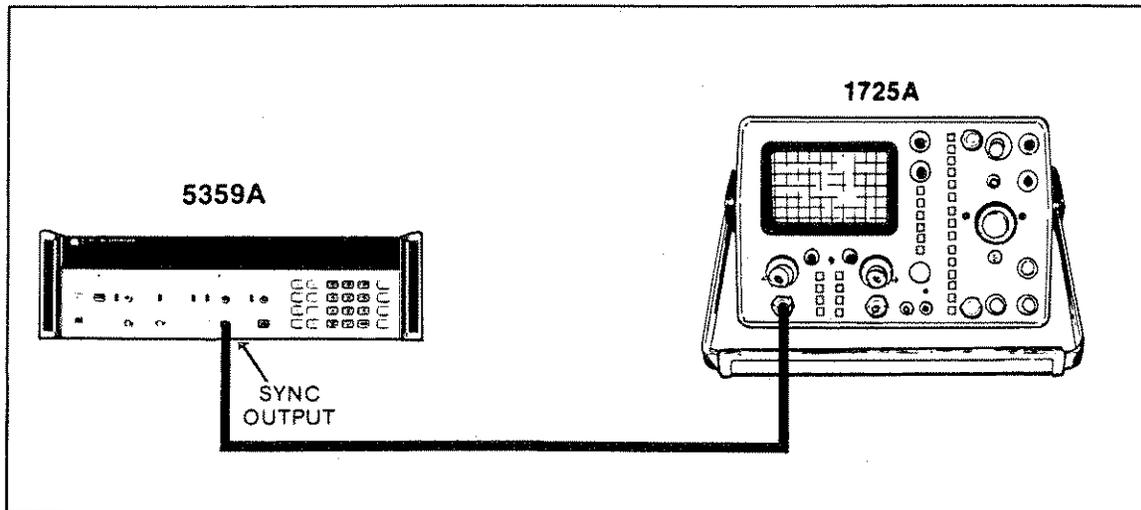

Figure 4-6. Setup for SYNC OUTPUT Performance Test
3. Connect the 5359A, and 1725A as shown in Figure 4-6.